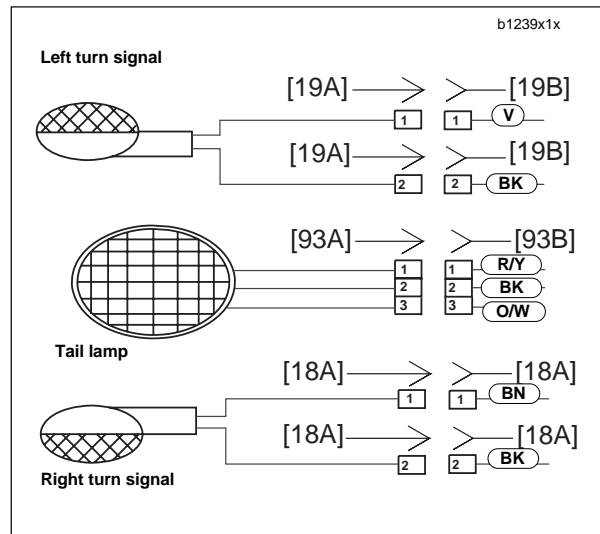

Figure 7-58. Rear Turn Signal Connections
- Attach bullet connectors on turn signal wires as shown in Figure 7-58.